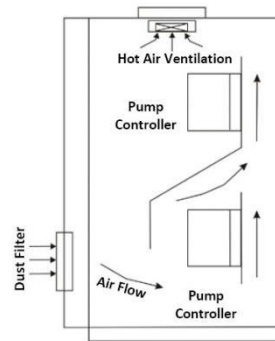

Figure 5. Ventilation Arrangement and Required Distances
8. Wrap vulcanized tape over the sealed joints. Fig 5